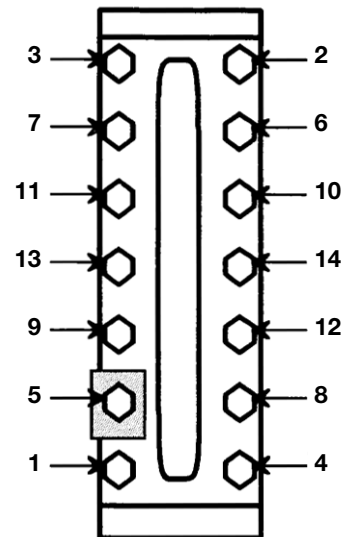

Figure 3: Loosening sequence
2. Hold gage firmly, and loosen nuts starting at both ends of each section and then proceeding from both ends to the center of each section as shown in Figure 3.